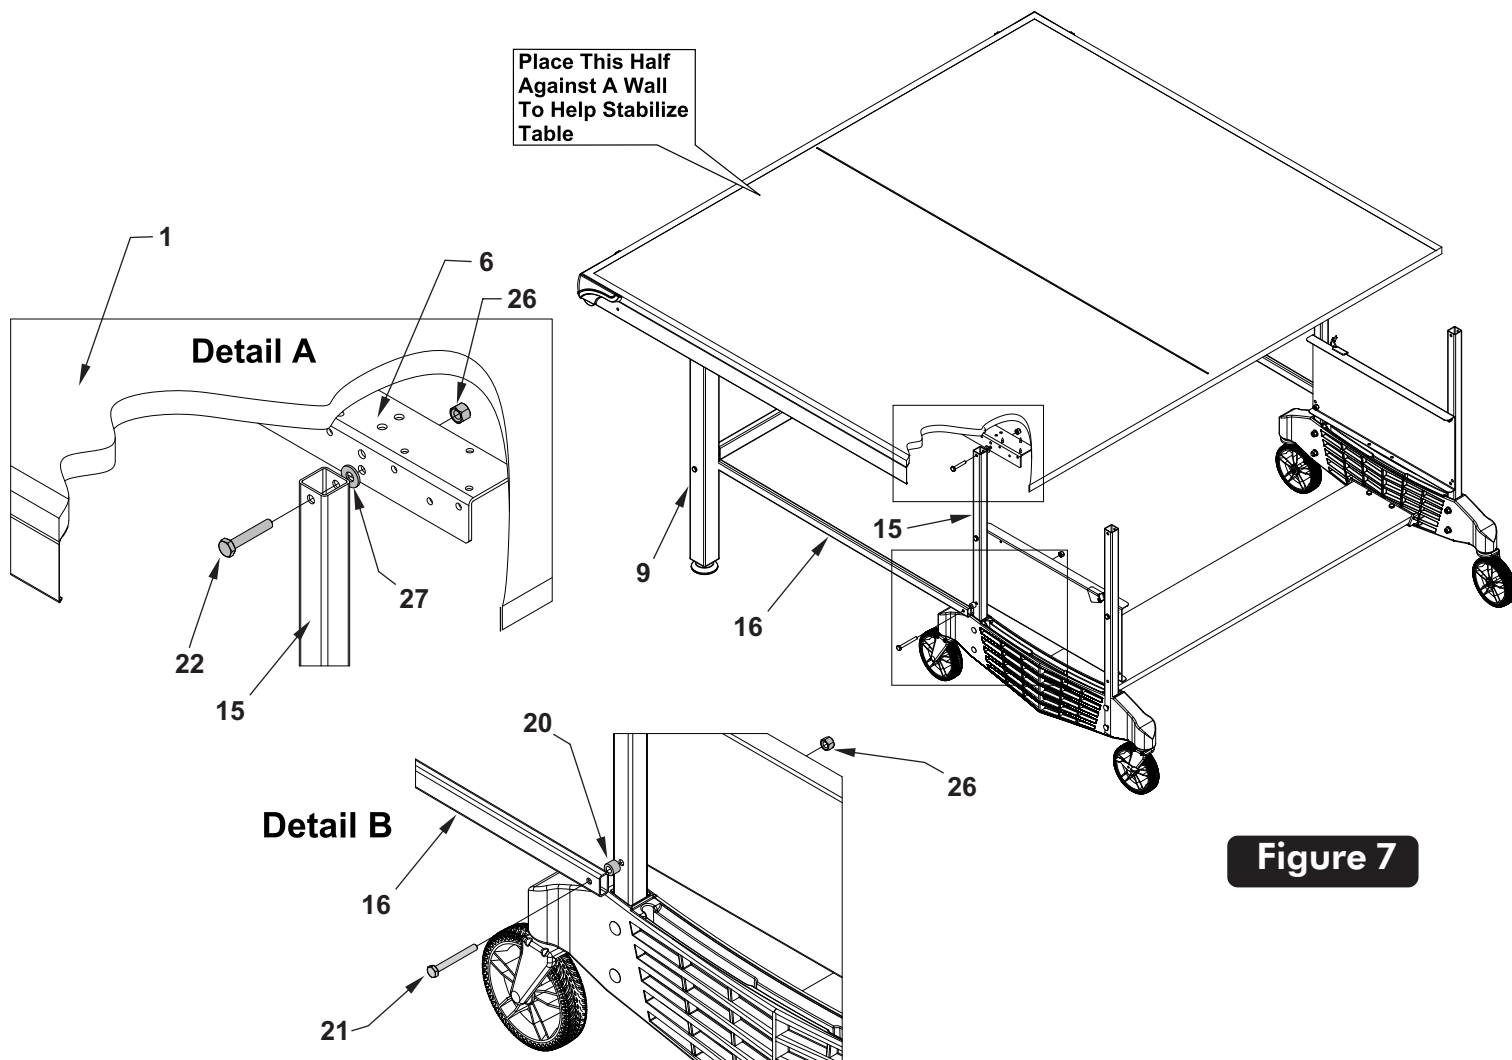

Figure 7
14. Make sure the leg assembly #9 on the first table half is open and linkages #16 are pointing toward middle of table. See Figure 7. With one adult person on each side of the table, lift and set table half on its legs.
While holding table half up, pull the base assembly under this half until the hole in Upright Tube #15 is aligned with **lower middle** hole in the Mounting Bracket #6 on the bottom of table half. See Figure 7 and Detail A. Attach Upright Tubes #15 to Mounting Brackets #6 with Hex Bolts #22, Washers #27 and Locknuts #26 that you placed on floor in step 13.
15. Remove bottom bolts #21 from bottom holes that attach name panels to Upright Tubes. Attach end of Linkage #16 to **outside** of Upright Tube #15 with bolt #21 (that you just removed), spacer #20 and Locknut #26. Note spacer #20 goes between linkage #16 and upright tube #15. See Figure 7 and Detail B. Tighten all nuts snug, but do not overtighten. Joints must pivot.